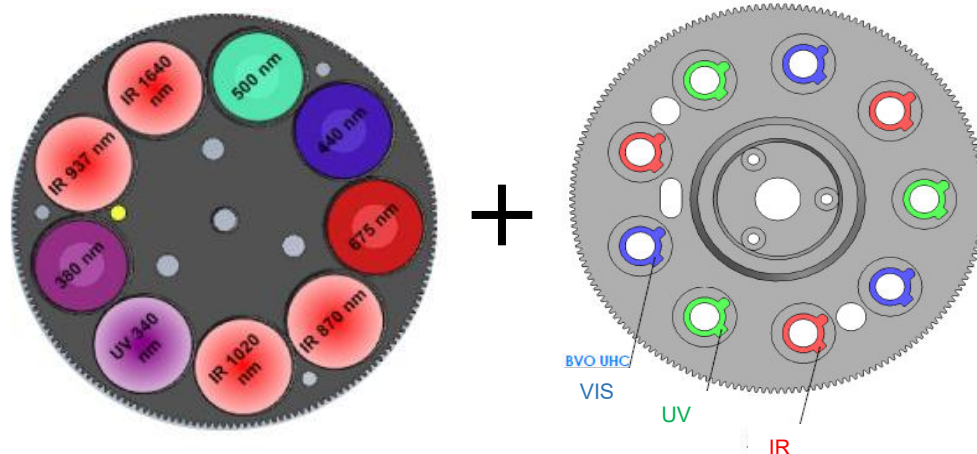

Figure 3: POLARIZED type (CE318-TP9)
- **Polarized / CE318-TP9:** A filter wheel containing 3 sets of 3 polarizers operating in infrared (POL1), Ultraviolet (POL2), and visible (POL3) which are orientated with a 120° angle is added on top of the wheel containing the Standard filters. Additional information about the aerosols' nature and shapes can then be retrieved (Fig.3).